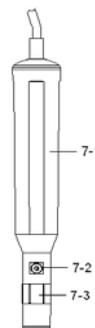

Fig. 5
- 1) Unscrew the " Probe head " ( 7-3, Fig 5 ).
- 4) Screw the " Probe head " ( 7-3, Fig 5 ) into the probe body.